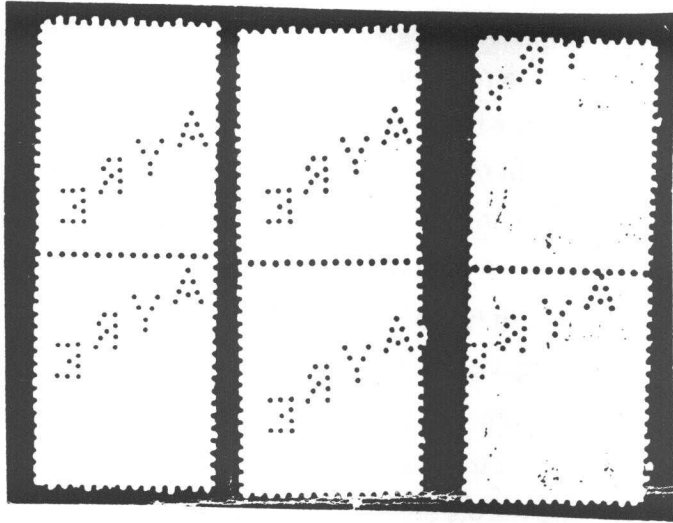

Fig. 2
2) Vertical pairs of A9 stamps show no consistency in the vertical separation of the patterns, giving further merit to the 5 die theory. This is clearly obvious in Fig. 2.